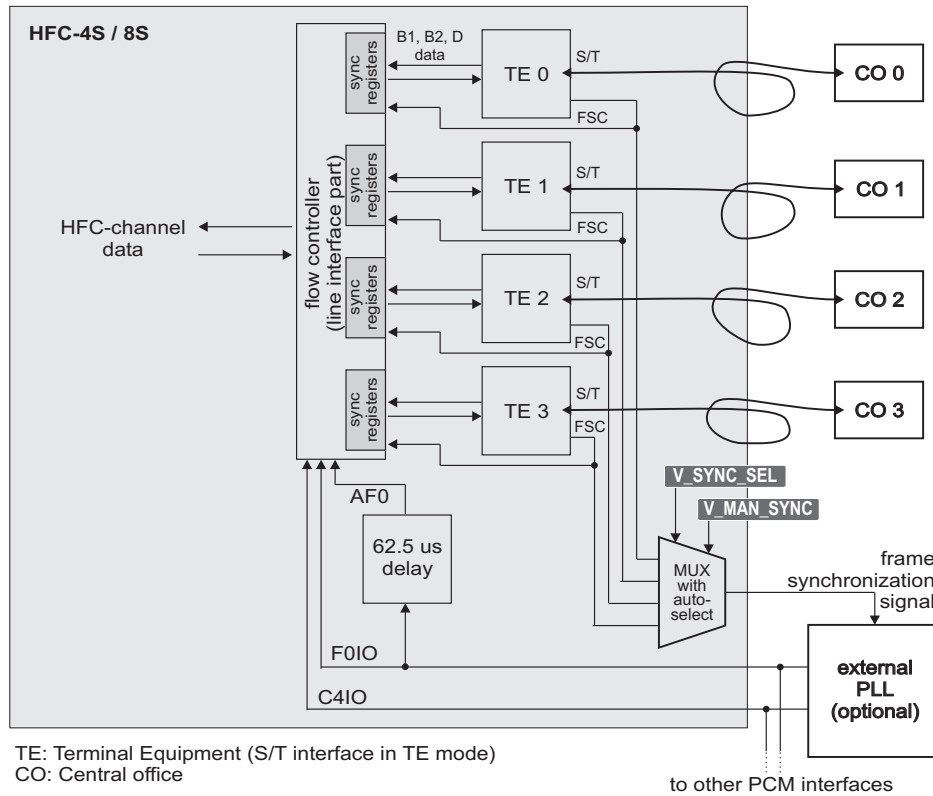
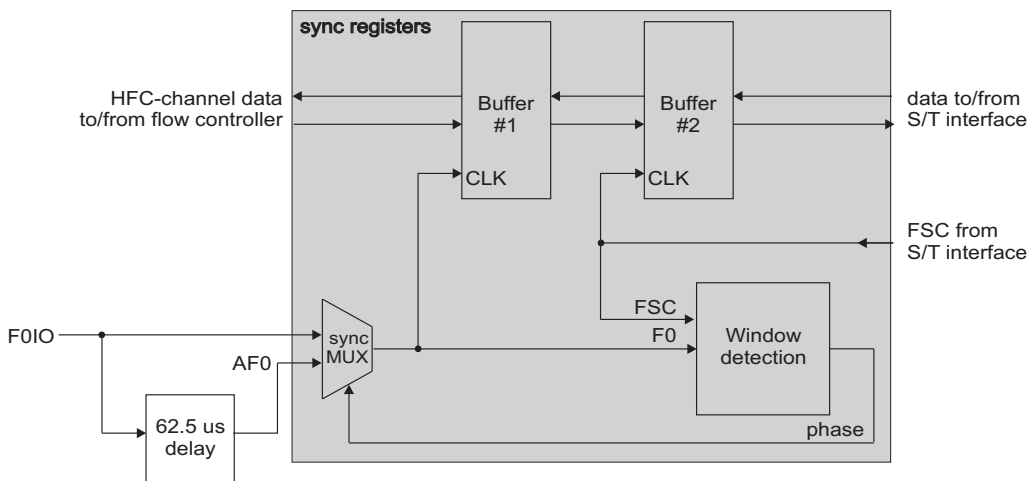

Figure 5.4: Synchronization scenario with TEs connected to unsynchronized central office switches
Figure 5.5: Synchronization registers (detail of Figure 5.4)
Several TEs of the HFC-4S/8S S/T interfaces can be interconnected to different central offices (CO). An example of this szenario is illustrated in Figure 5.4.
The sychronization registers of Figure 5.4 are shown in detail in Figure 5.5. Received and transmitted data are always buffered twice to achieve a synchronization on both sides, the HFC-channel and the S/T interface. The S/T interface data is always synchronous to its FSC pulse.
HFC-channel data is latched either by the F0IO signal or by the delayed AF0 signal. If there is a central clock supply from an external PLL, it can be used to provide the timing for HFC-4S/8S as shown in Figure 5.4. In the other case, the internal PLL can be used as master PLL of the ISDN system.
When there is a frequency drift between FSC_0 and FSC_1, the window detection block changes its output level from time to time and the synchronization multiplexer output shown in Figure 5.5 switches to the other clock signal. When this happens, a data error might happen.